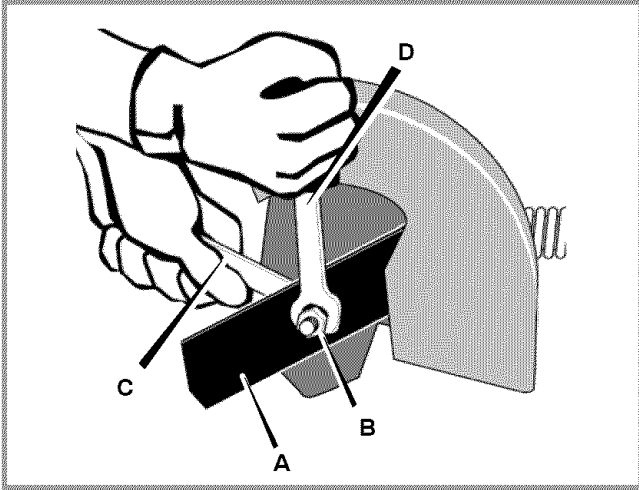

Figure 16: Blade Removal
NOTE: To remove or tighten the blade locknut, always use the method shown in Figure 16. First, secure wrench (C) onto the nut located behind the blade. Then, to remove or tighten the blade locknut, turn the wrench (D).